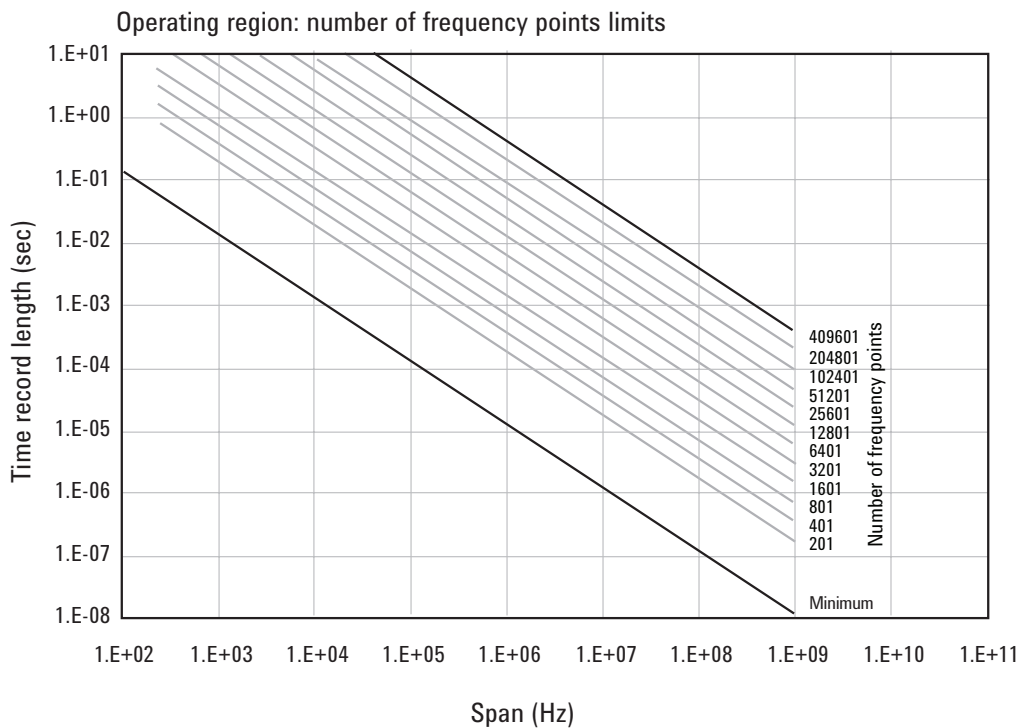

Figure 3. The user-settable parameter, frequency points, begins to determine the boundaries of the time record length and frequency span operating region.
The operating region is described in terms of span and time record length. For a given window type it could just as easily be described in terms of span and RBW. Figure 3 shows the effects of the number of time points the 89600 VSA software is allowed to collect. Because sample spacing is inversely proportional to span, the record length decreases as span increases. Although a family of lines is shown, only two define the operating region at any one time. The lowest line gives the smallest time record length allowed for any given span. The position of this line is determined by minimum number of time points (16) the 89600 VSA software requires in a time record. The line that defines the upper time record length boundary is positioned by the maximum number of time points the 89600 VSA software allows in a time record. The maximum number of time points is determined by the **Frequency Points** setting (**MeasSetup > ResBW > Frequency Points**). The 89600 VSA software is constrained to operate in the region between these two lines. Note that the operating lines of Figure 3 are the same for all Infiniium models.